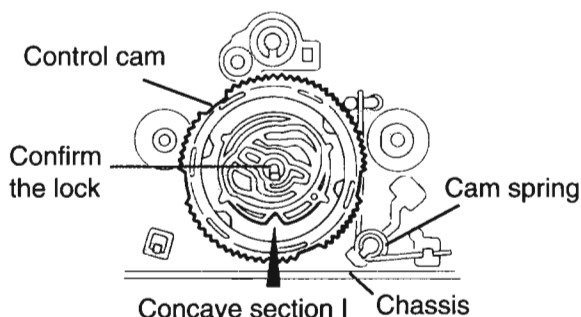

Fig 12
3. After attaching the control cam to the shaft, align the concave I of the control cam to the position as shown in Fig 12 while moving the forward/reverse arm and head base.